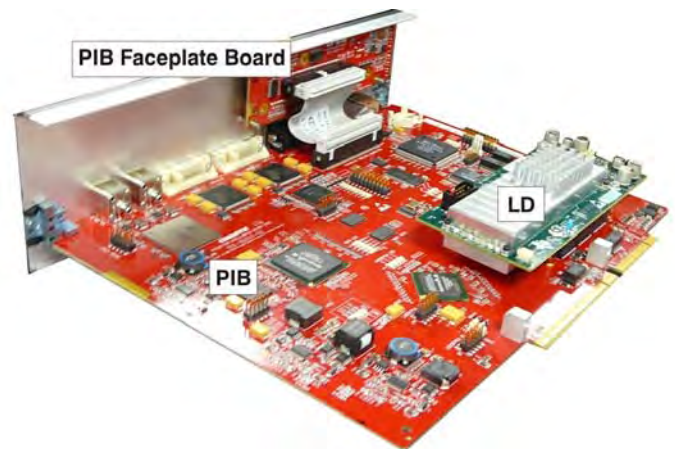

Figure 5-39 PIB, PIB Faceplate and LD
6. Pull the PIB assembly out of the cardcage. (**Figure 5-39**)